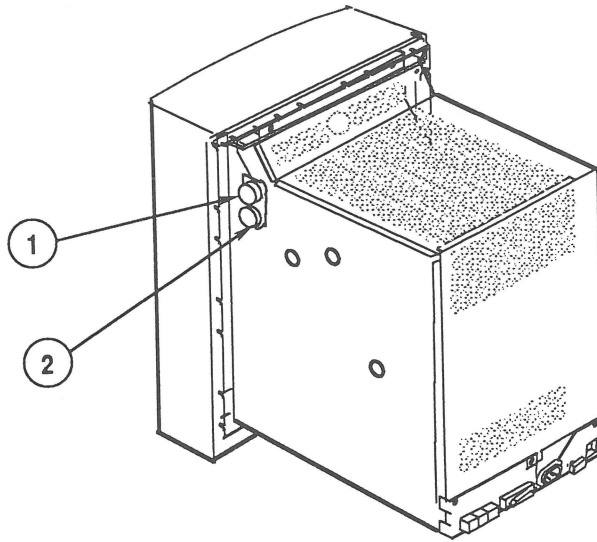

FIGURE 8
2. Set the BRIGHTNESS control (Figure 8, #1) to midrange—the detent position. To identify the detent position, turn the knob and locate the place in the middle where the knob hesitates.
3. Set the CONTRAST control (Figure 8, #2) at maximum (full clockwise).